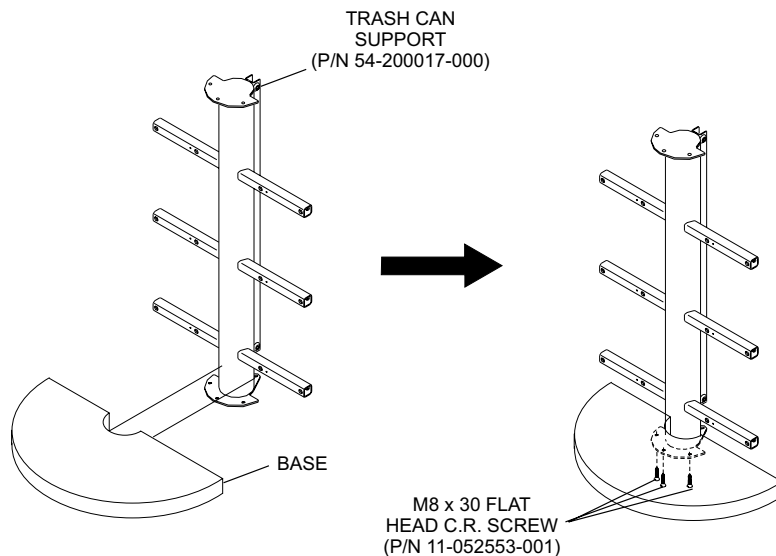

Figure 2
1. Secure base to new Trash Can Support (P/N 54-200017-000) with M8 x 30 flat head C.R. screws (P/N 11-052553-001). Refer to *Figure 2*.